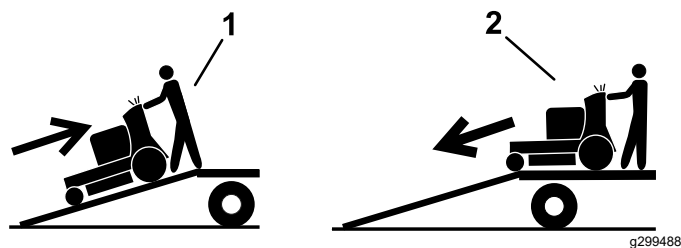

Figure 23
4. Back the machine up the ramp (Figure 23).